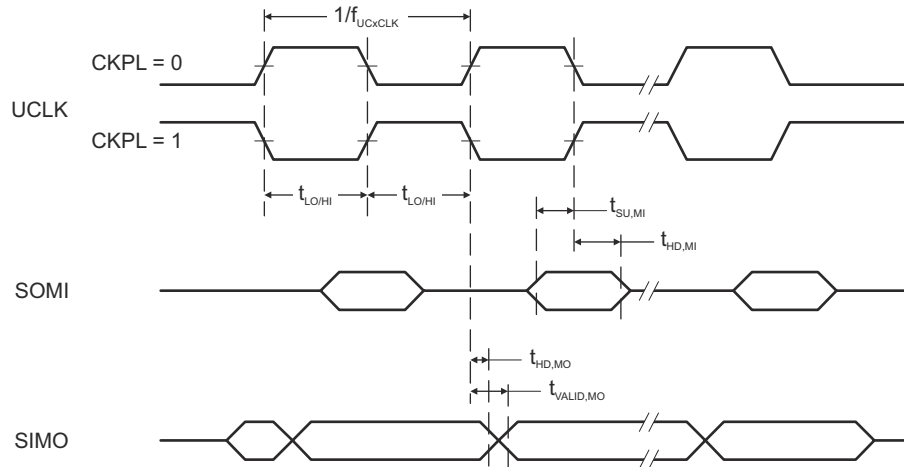
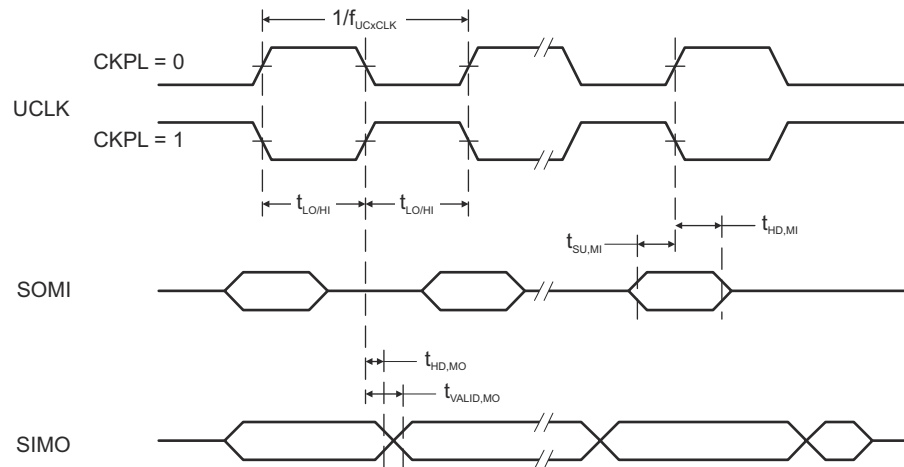

Figure 8-11. SPI Master Mode, CKPH = 0
Figure 8-12. SPI Master Mode, CKPH = 1
(see Figure 8-11 and)
- (2) Specifies the time to drive the next valid data to the SIMO output after the output changing UCLK clock edge. See the timing diagrams in Figure 8-11 and Figure 8-12.
- (3) Specifies how long data on the SIMO output is valid after the output changing UCLK clock edge. Negative values indicate that the data on the SIMO output can become invalid before the output changing clock edge observed on UCLK. See the timing diagrams in Figure 8-11 and Figure 8-12.